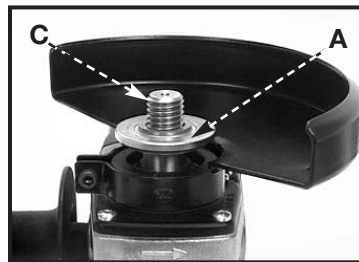

Fig. 5
3. Position the inner flange (A) Fig. 5 on the spindle (C) with the round hub facing outward, away from machine. Rotate the flange until it drops into place on the spindle.